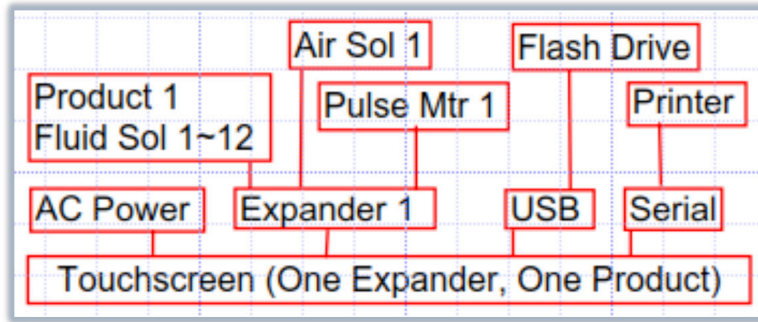
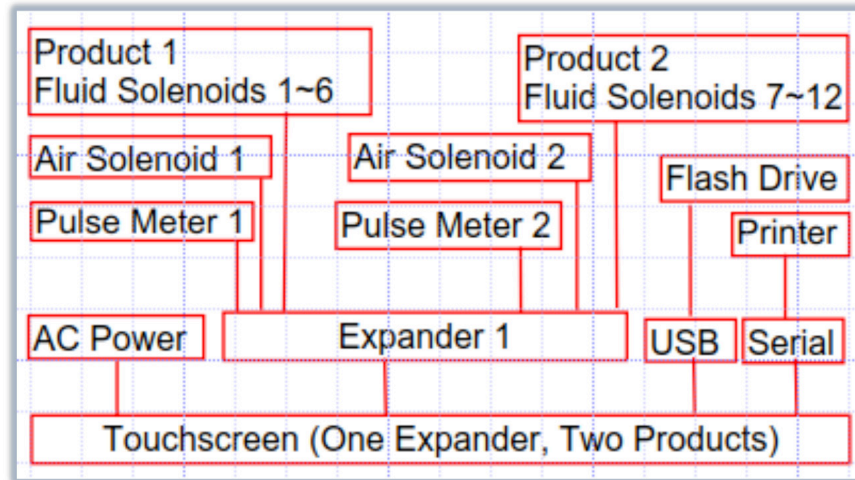

Figure 1, One Expander, One Product
Figure 2, One Expander, Two Products
- Two (2) each, CAT5 connector - Female
- o Configurable for one (1) product (Figure 1) or two (2) products (Figure 2)